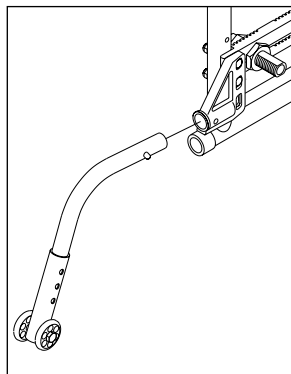

Figure 30
1. Inserting Anti-Tip Tubes Into Receiver (Fig. 30)